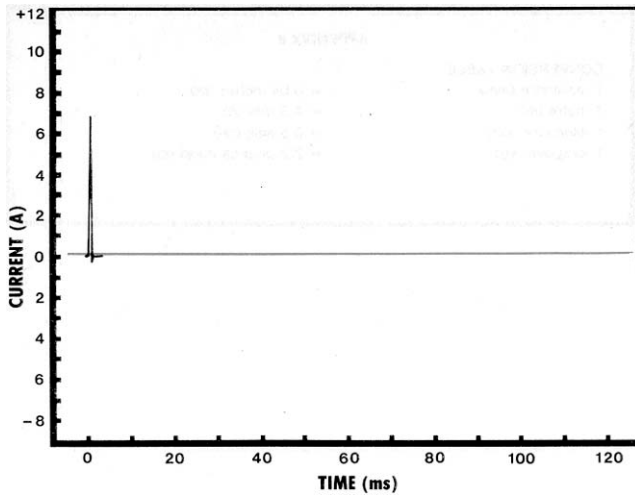
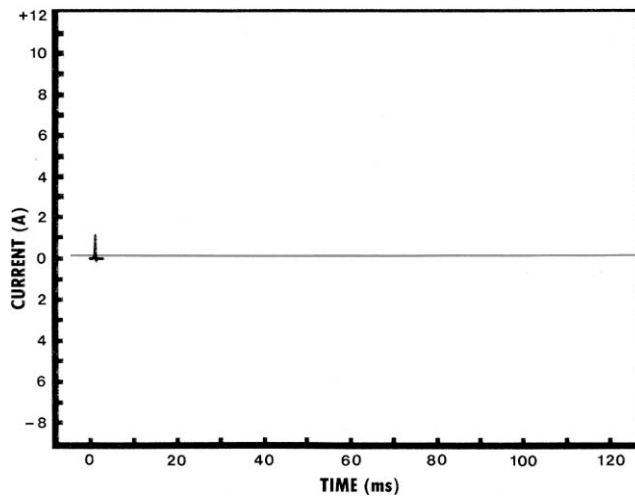

FIGURE 3. Current Delivered to a Well-Grounded Cow Touching a 5.4 km Well-Insulated Fence.
FIGURE 5. Current Delivered to a Normally-Grounded Cow Touching a 5.4 km Well-Insulated Fence.
**Electrical Charge:** FIGURES 3 to 6 show the current output of the BEE 7721 when a cow touches 5.4 and 16 km (3.3 and 10 mi) lengths of well-insulated, single wire, fence. FIGURES 3 and 4 are for an animal resistance of 0.5 kΩ, which represent the most extreme condition of a cow standing in water and licking the charged wire, while FIGURES 5 and 6 are for an animal resistance